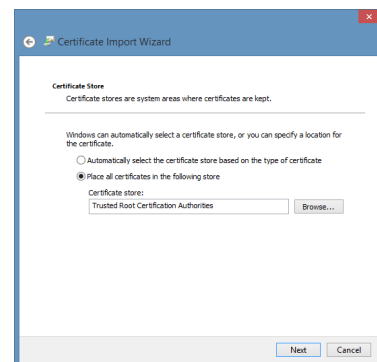

Figure 80: Certificate import wizard - trusted root certification
8. Select the radio option for **Place all certificates in the following store**, then click **Browse** (see Figure 80).